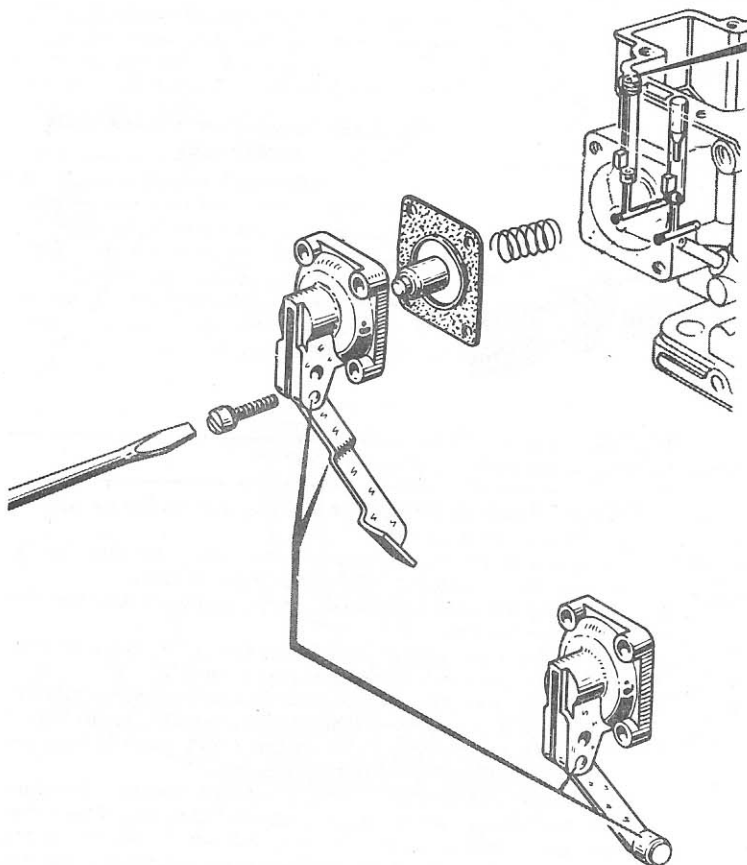

Fig. 7.18 Location of the accelerator pump inlet ball valve (Sec 6)
11 During the manufacture of the carburettor a ball is inserted into the accelerator pump channel and retained by a brass plug (see Fig. 7.18). To check that this ball is free and unobstructed, shake the carburettor body (88) and listen to the ball movement.